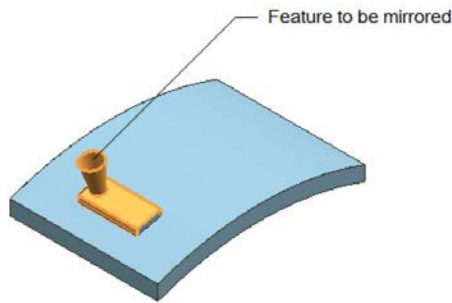

Figure 11-81 Feature to be mirrored
1. Invoke the **Mirror Feature** dialog box and then select the feature to mirror, refer to Figure 11-81.